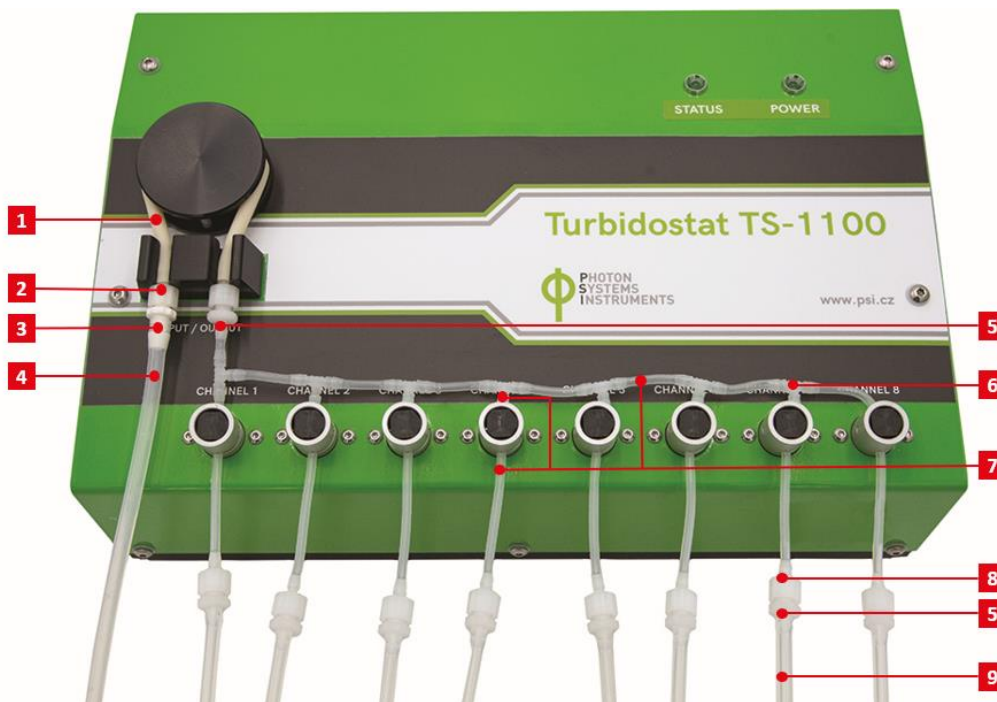

Fig. 8 Assembling of the fresh medium dispenser tubing.
- Assemble the medium dispenser tubing as is shown in Fig. 8. Use appropriate tubing for rotor of the peristaltic pump, pinch valves and medium dispenser as described below.
- For connection of different tubing pieces use corresponding connectors and tee fittings as described below (Fig. 8).